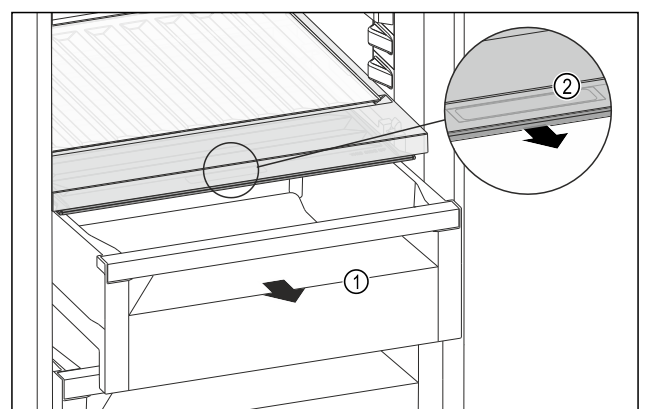

Fig. 118
- Pull out the drawer Fig. 118 (1).
- Grasp the recessed grip Fig. 118 (2) on the compartment lid and pull the compartment lid forwards at the same time.